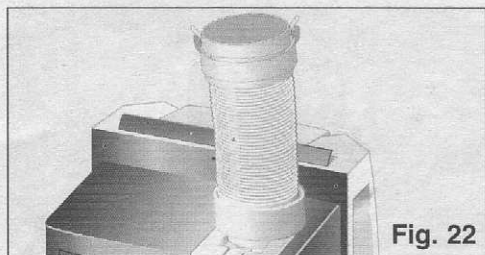

Fig. 22
- ❑ Remove the diffusion duct and set the air expulsion tube to the position shown in ..... fig 22.